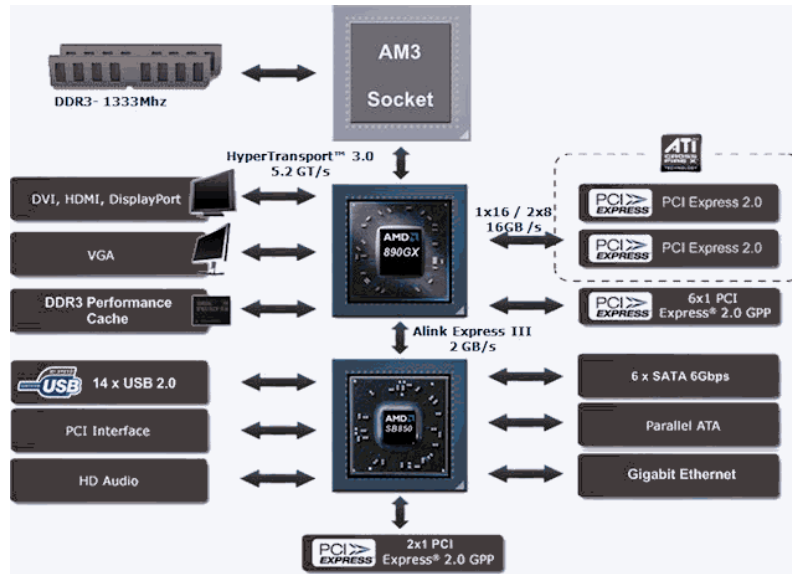

Figure 4.12: AMD chipset schema for AM3 processors⁷
General chipset diagram with FSB bus is on Figure 4.10, on Figure 4.11 we can see a specific chipset from Intel for Core 2 Extreme processor, Figure 4.12 shows a chipset diagram for motherboards with processors for the AM3 socket (by AMD).
- Figure 4.12 still assumes that we have a chipset in two large chips outside the processor, but the memories (also DDR3) are already connected to the processor, not to the north bridge (so part of the north bridge – the memory controller – moves to the processor),